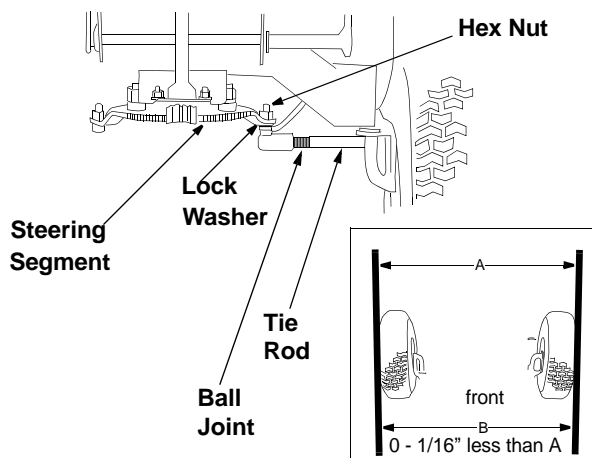

Figure 13
- Remove the 3/8" hex nut which holds the ball joint to the steering segment. See Figure 13.
- Adjust the ball joint in or out until the wheels toe-in approximately 0 - 1/16" (Dimension "B" should be approximately 0-1/16" less than dimension "A"). See Figure 13.